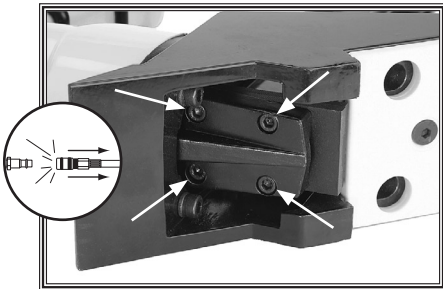

Figure 4. Location of cap screws securing the magazine to the stapler.
4. Use the 4mm hex wrench and remove the four cap screws and lock washers that secure the magazine to the stapler (see Figure 4).
3. Use the 4mm hex wrench and remove the four cap screws and lock washers that secure the magazine to the stapler (see Figure 4).